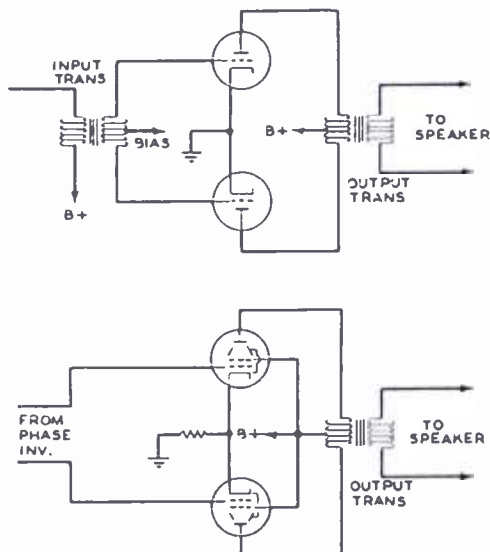

FIG. 1. BASIC PUSH-PULL POWER AMPLIFIERS
Rather, push-pull circuits of Fig. 1, or some variation of them, are invariably employed. They are termed push-pull circuits because they are driven by grid signals identical except for polarity. Thus, the current in one tube increases as that in the other tube decreases. The currents in the output transformer are therefore additive, each reinforcing the other and producing in the secondary winding a single current which is a combination of the two.
4. Elimination of the cathode bypass capacitor: As can be seen in Fig. 1, current for both tubes flows through the common cathode resistor. When the current in one tube is increasing, that in the other is decreasing. Their algebraic sum is constant, thus providing a constant DC bias for both tubes.